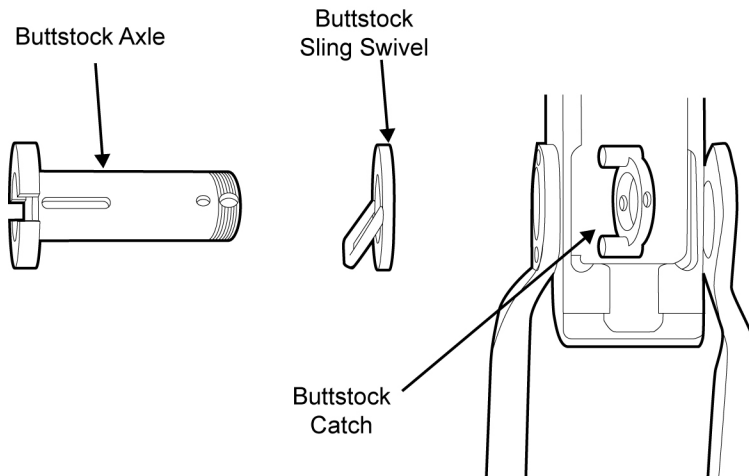

Figure 33. Removing the Buttstock Axle, Buttstock Sling Swivel, and Buttstock Catch.
- f. Remove the buttstock axle from the receiver, remove the buttstock sling swivel from the buttstock axle, and remove the buttstock catch from inside the receiver. Remove the folding buttstock from the end of the receiver. Refer to Figure 33.